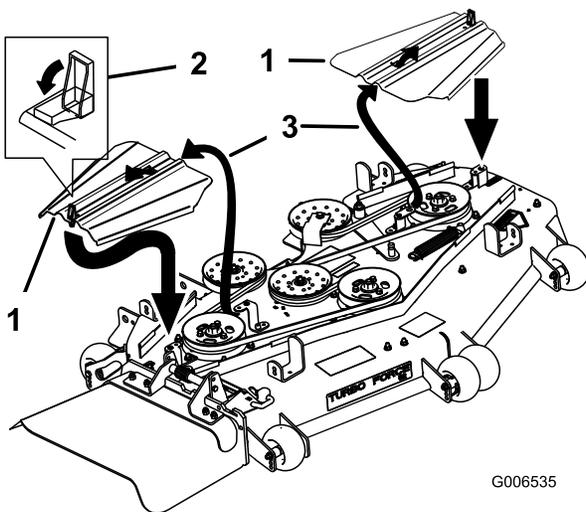

Figure 85
- Install the belt covers by sliding the cover into the tab, install the bolts, and close the latches (Figure 85).